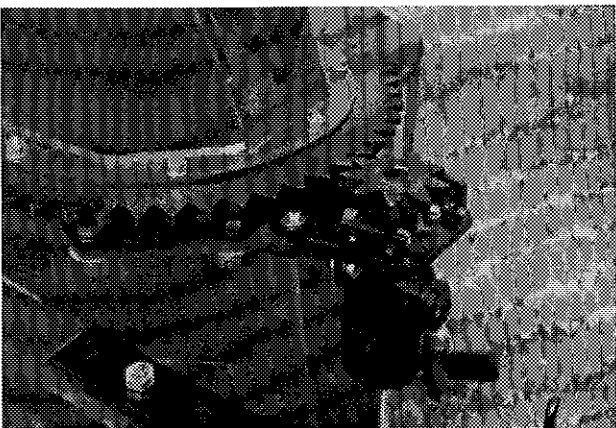

Figure 29
- 3) Install motor mounting plate, motor and 9 tooth gear. See page 29 for bolt dimensions (Fig. 29).